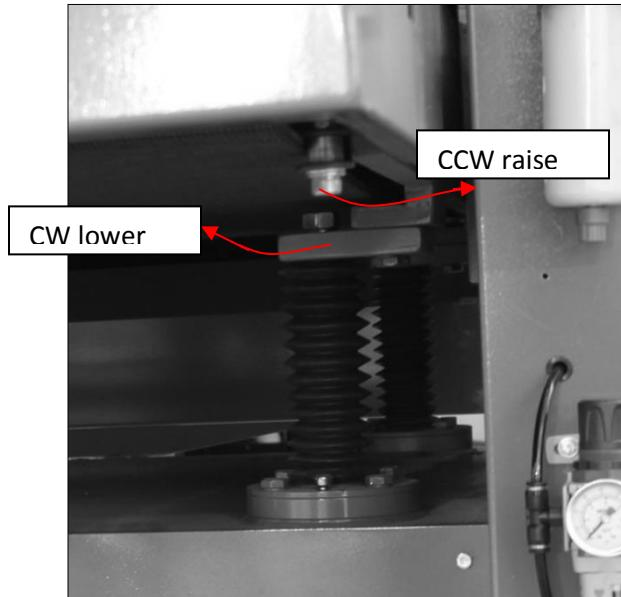

Figure 15
3. At the area of the table that needs adjustment, loosen the screws (A, Figure 15 ) on the bracket of the lift screw, and rotate the lift screw as needed. (The lift screw is protected by the dust guard bellow.) Turn the lift screw clockwise to lower the table in that area, counterclockwise to raise the table (see Figure 15 ).
4. Tighten screws (A, Figure 15).